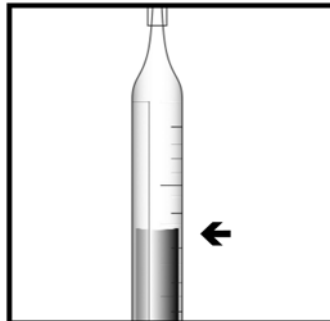

Figure 6
9. When the color of the liquid in the ampoule changes to **GREEN**, remove the ampoule from the Titrator. Hold the ampoule in a vertical position and read the scale opposite the liquid level (Figure 6).